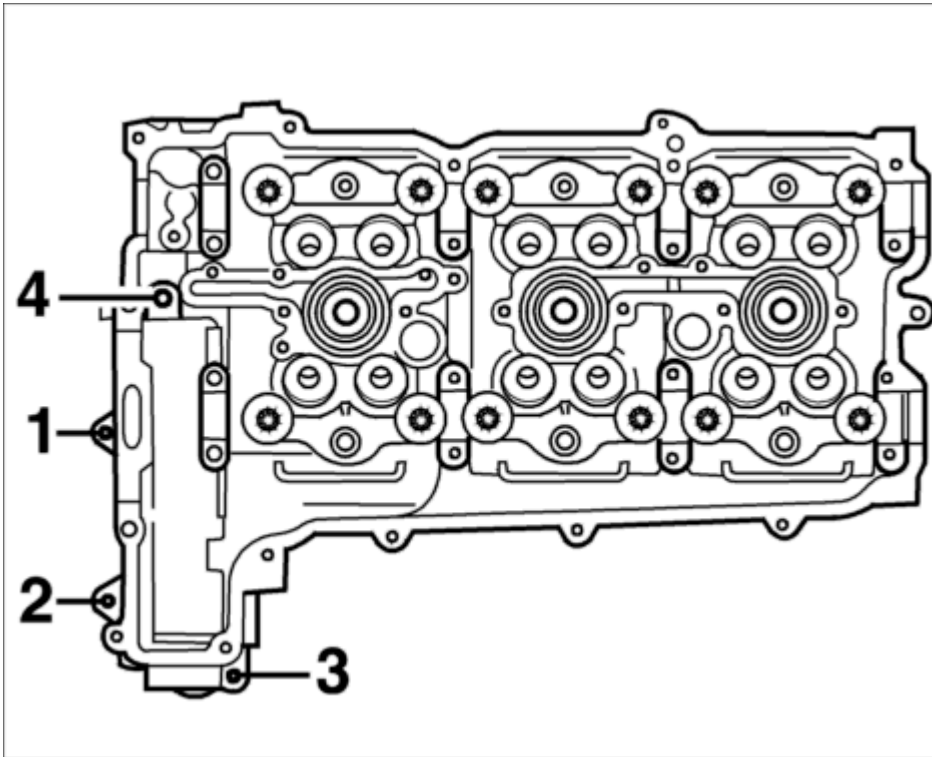

Fig. 172: External cylinder head screwed connection
2. Unscrew four Torx screws with M6 x 30 captive washers (10.9) -1-4- at the chain slot. Use of a magnetic bit is recommended so that the screw to be fitted in the slot -Item 4- cannot fall into the crankcase. See **Fig. 172**.